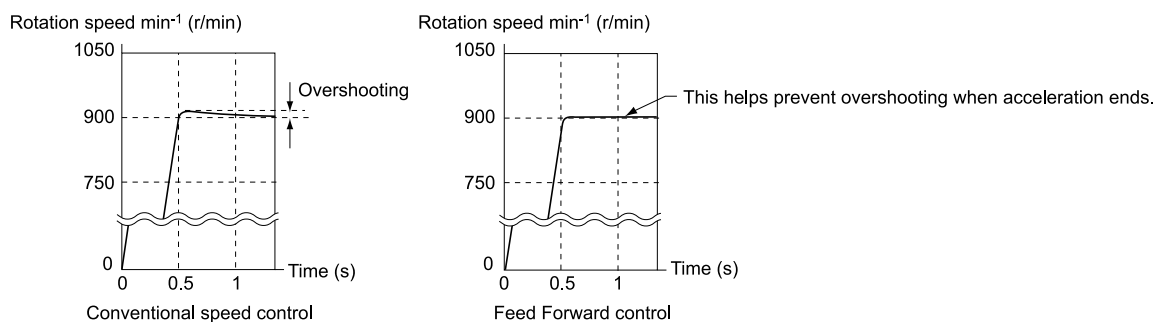
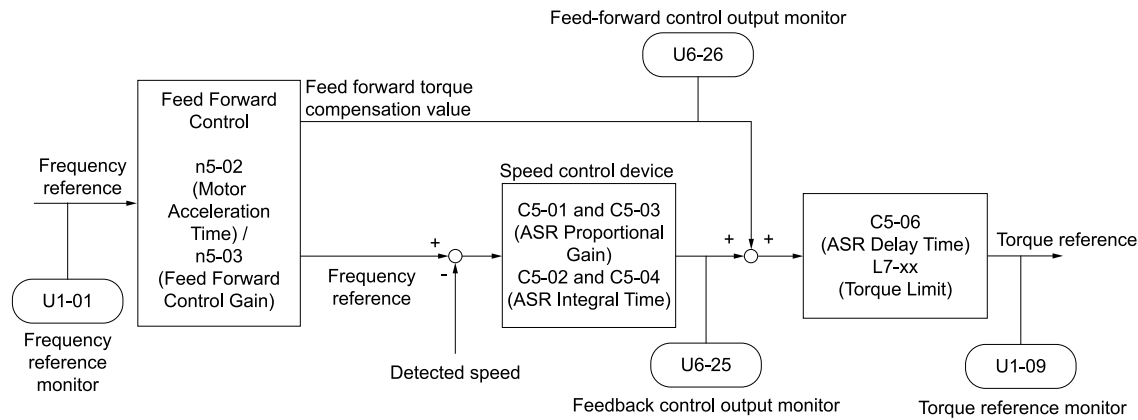

Figure 12.140 Suppress Overshooting with Feed Forward Control
Figure 12.141 Configure Feed Forward Control
Increase $C5-01$ and $C5-03$ [ASR Proportional Gain] to apply feed forward control to machines that have low rigidity and are possible to have hunting and vibration or to machines that have a large quantity of inertia. When you use this function in CLV control, it also helps prevent overshoot. Refer to Figure 12.140. Refer to Figure 12.141 for more information about parameters related to feed forward control.
- If you cannot do Inertia Tuning, refer to Figure 12.141 and set the parameters related to feed forward control individually.